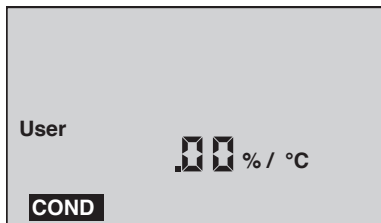

Figure 3
- b. With “**User**” selected, press  $\text{CAL} / \text{MCLR}$ . If the display does not show .00%/°C, hold long enough to bring the tempco to .00%/°C (see Figure 3).